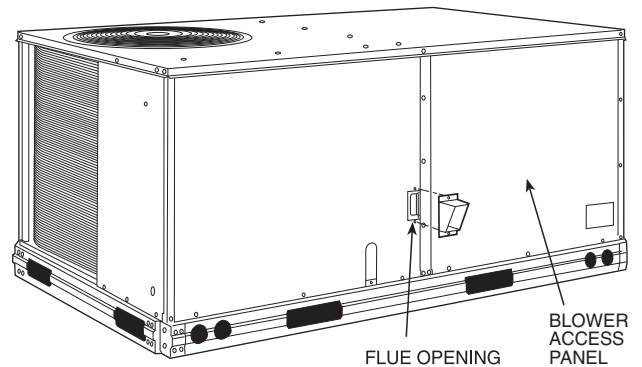

Fig. 13 — Flue Hood Details
Step 9 — Install Flue Hood — Flue hood is shipped screwed to the basepan beside the burner compartment access panel. Remove from shipping location and using screws provided, install flue hood and screen in location shown in Fig. 13.